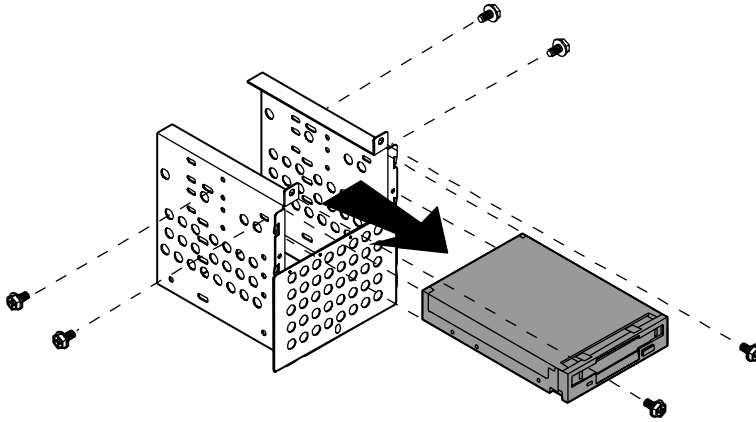

Figure 21: Removing the 3.5-inch Drive
6. Remove the screws securing the 3.5-inch drive to the bracket, and then remove the 3.5-inch drive (see Figure 21).